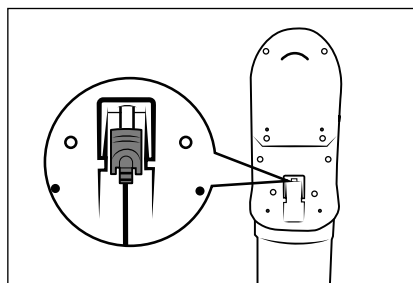

Fig. 8
- The vacuum cleaner can also be charged directly via the mains adapter **10**. To do this, remove the barrel plug **11** from the wall bracket **18** by turning it slightly and insert it into the charging socket **3** on the appliance (see Fig. 8).